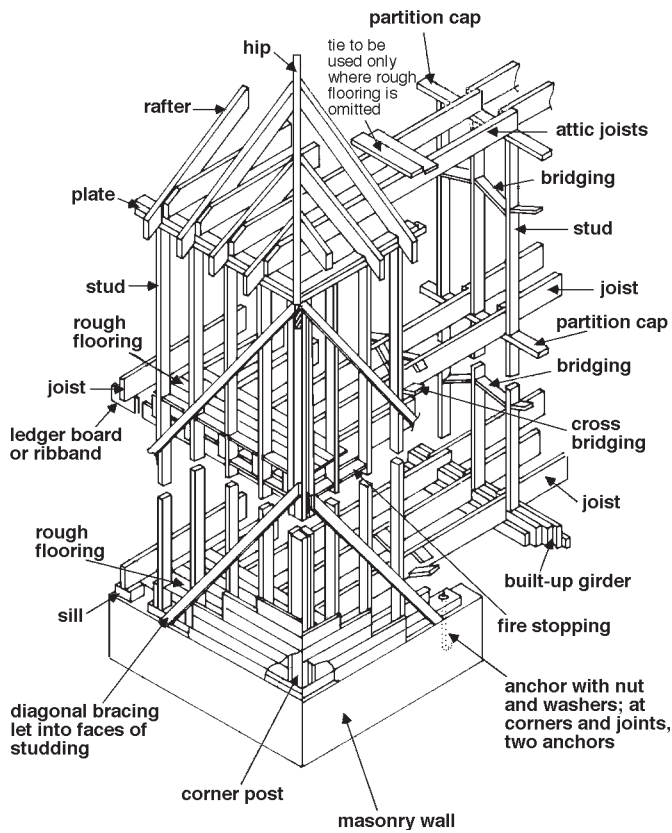

Figure 1. Balloon Framing
**rafter.** Usually an inclined member which supports the roof. Can also be flat or horizontal (Figs. 1, 3, and 6).
- sill.** A horizontal framing member placed across the bottom of door or window openings (not always used on interior openings). Also, a horizontal member which lies on top of a stone or masonry wall, usually bolted down to tie the wood construction to the masonry or stone construction (Figs. 1 and 3).
- stud.** A vertical framing member that is used to form partitions or outside walls and carries the floor or roof above it (Figs. 1, 3, and 5).